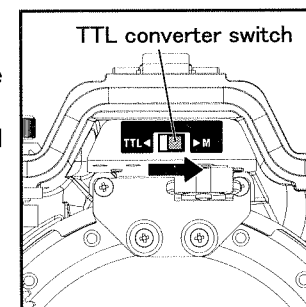

Fig.14
- Slide the TTL converter switch toward the "M" position with a thin rod (Fig. 14).